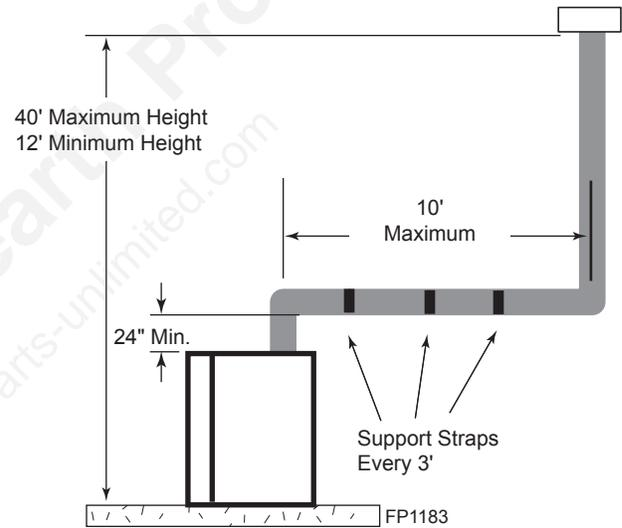

Figure 21 - Support Straps for Horizontal Runs
- Vertical installations up to 40' (12 m) in height. Up to a 10' (3 m) horizontal vent run can be installed within the vent system using a maximum of two 90° elbows. *Figure 21*
NOTE: If an offset is needed to avoid obstructions, you must support the vent pipe every three (3) feet. Use wall straps for this purpose. Refer to Page 18, Figure 21. Whenever possible, use 45° elbows instead of 90° elbows. The 45° elbow offers less restriction to the flow of the flue gases and intake air.